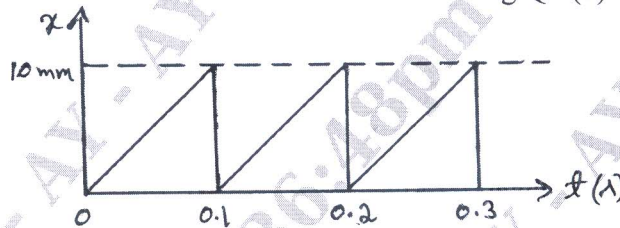

Fig.Q.2(b)
b. Find the Fourier series for saw tooth curve as shown in the Fig.Q.2(b). (10 Marks)